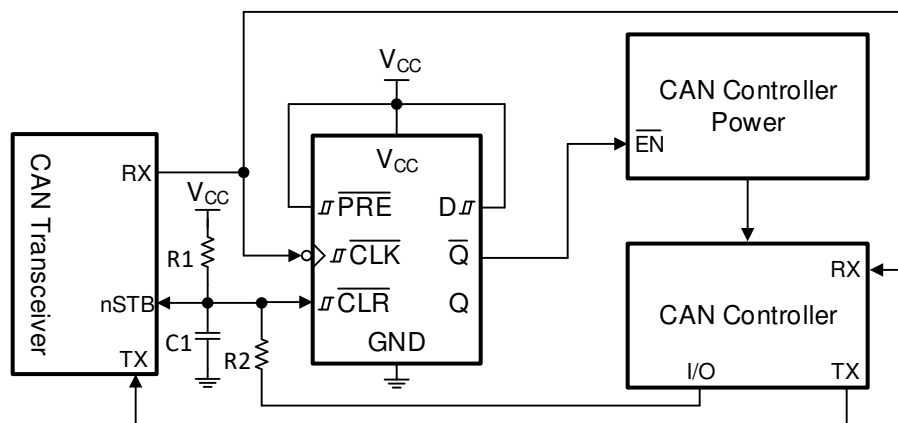

Figure 12. Power Enable Using CAN Wake-up Request
With the SN74HCS72-Q1, a power on reset circuit only requires a resistor (R) and capacitor (C) to create a delay. The R and C values create a delay that is approximately $2.2 \times RC$. In this application, it is desired to have the output (\bar{Q}) in the HIGH state at startup, so R1 and C1 are connected directly to the \bar{CLR} pin, as shown in Figure 12. A second resistor is needed to limit the current into the CAN controller when it sets the circuit back into standby mode. It is required for the R1 resistor to be at least ten times larger than R2 to avoid a divider circuit ($R2 \leq 10R1$).